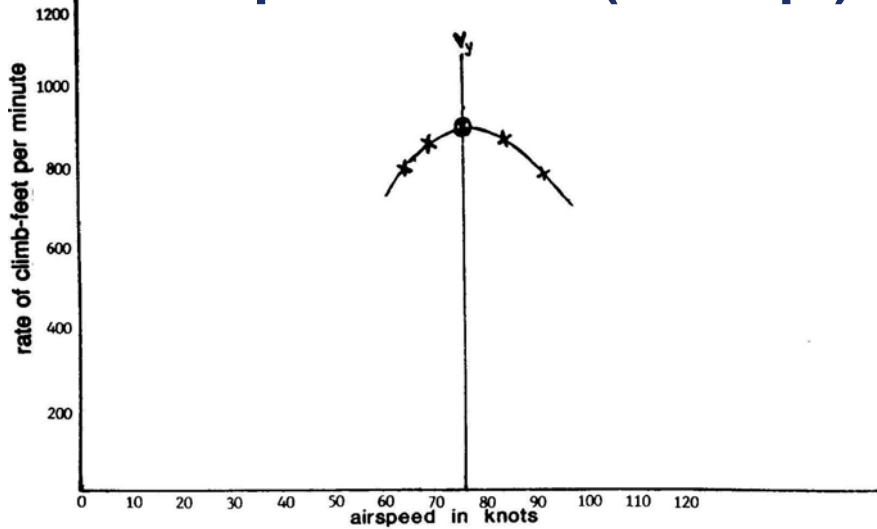

FIGURE 6. Climb Airspeed and Altitude Graph
Best Rate of Climb Speed Tests. To determine the best rate of climb for the aircraft, the following procedures are suggested: (1) Perform the tests in smooth air, free from thermal activity. Select an altitude (e.g., 1,000 feet AGL) as a BASE attitude. Use a heading 90 degrees to the wind and for the best results, reverse the heading 180 degrees after each climb test. (2) Begin a full throttle climb well below the predetermined BASE altitude and stabilize at a preselected airspeed approximately 15 knots/mph above the predicted best rate of climb speed. As the aircraft passes through the BASE altitude, begin a one minute time check. At the end of 1 minute, record the altitude gained. Descend down below the BASE altitude. Decrease the airspeed by 5 knots/mph and run the test again. After each succeeding test, the pilot should decrease the airspeed by 5 knots/mph until reaching an airspeed that is 10 mph/knots higher than the stall speed of the aircraft. Record the airspeed and altitude gained for each climb on a graph similar to figure 6. (3) The airspeed that shows the greatest gain in altitude is the aircraft's best rate of climb speed ( $V_y$ ).